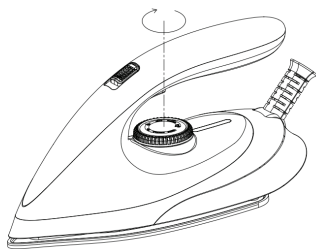
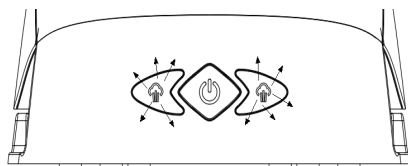

Fig.3
Fig.4
1. Select the maximum iron temperature, turning the iron temperature knob clockwise (Fig. 3).
2. Move the iron from top to bottom, having enabled the constant steam button (D).
1. We recommend you filling water tank (A) before steam ironing.
2. Connect the plug to the wall outlet, press down the On/Off Power switch (H).
3. The power light will illuminate. Turn temperature switch to your desired setting, which is depended on the fabric of garment (Fig.3). Then the heating indicator will illuminate (Fig. 4). Refer to IRONING TIPS
8. The appliance will then be ready to start ironing. The steam ready light (G) (Fig.4) will then switch on and off automatically as the steam is used. Slight noise will also sometimes be heard, which is caused by the pump refilling the water tank. Continue ironing normally.